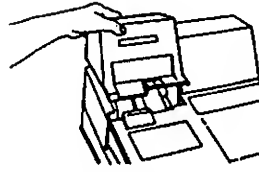

Fig. 12
9. Attach the Receipt Cover (Fig. 12).